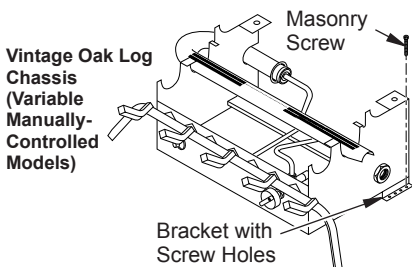

Figure 13 - Attaching Heater to Fireplace Floor (Variable Manually-Controlled Models Only)
7. Mark screw locations through one hole on each side of the mounting bracket (see Figures 13 or 14, depending on your model). If installing in a brick-bottom fireplace, mark screw locations in mortar joint of bricks.